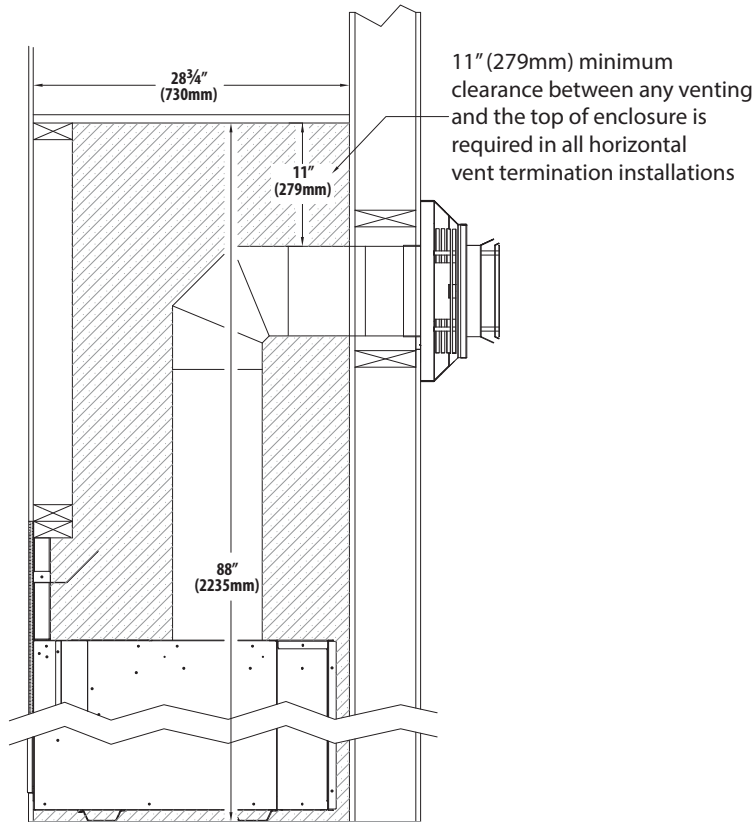

Figure 3.6, Vent Termination Minimum Framing Clearances
- A minimum of 11" (279mm) clearance from any venting to the enclosure top is required in all horizontal vent termination installations. The horizontal pipe after the wall pass-through must maintain a 1" (25mm) clearance to combustibles on all surfaces of the pipe. See Figure 3.6 on page 17.